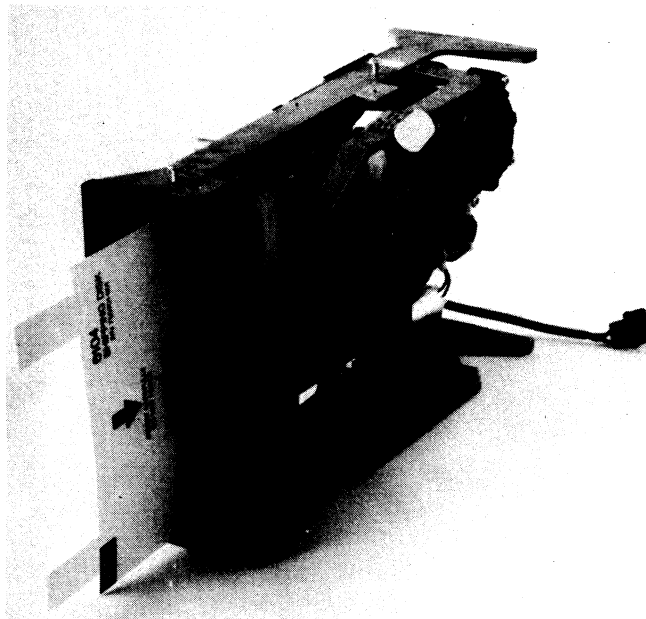

FIGURE 3 - 1 : REMOVE OF SHIPPING DISK AND SHIPPING PROTECTION CLIP
- remove shipping disk and shipping protection clip as shown on fig. 3 - 1 ;